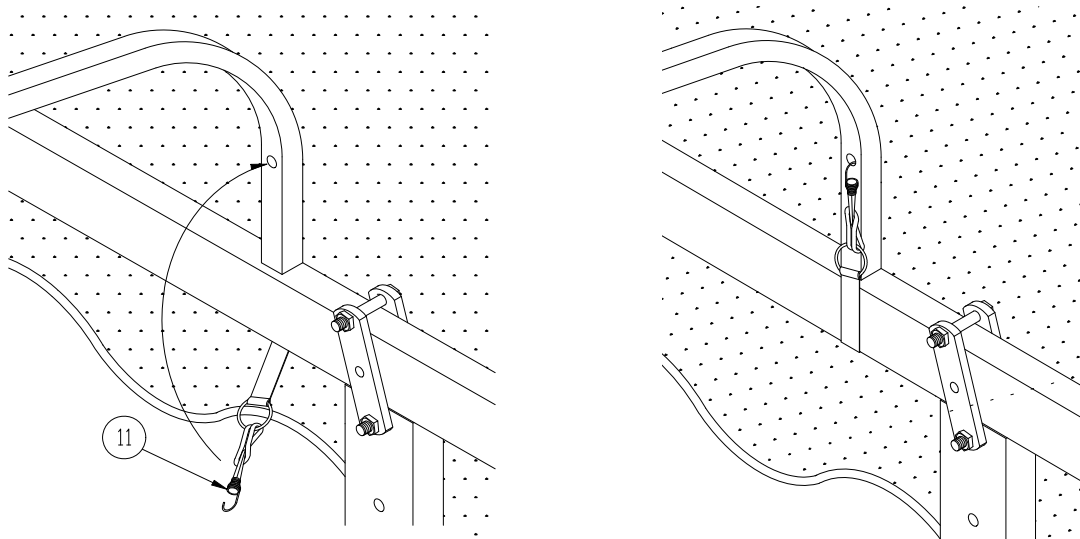

Figure 2-9.
16. Refer to **Figure 2-9**. Feed bungee cord through ring and thread hook end through loop to attach to ring, Wrap bungee cord under and around canopy frame. Attach hook end to hole in canopy rib as shown.